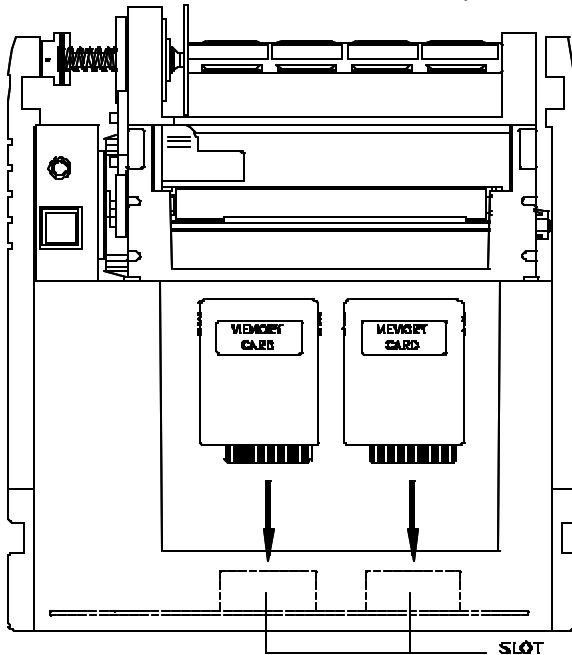

Fig.2.7.1
4. Please refer to the following diagram to insert the external memory card(s) into the slot(s). (see figure 2.7.1)